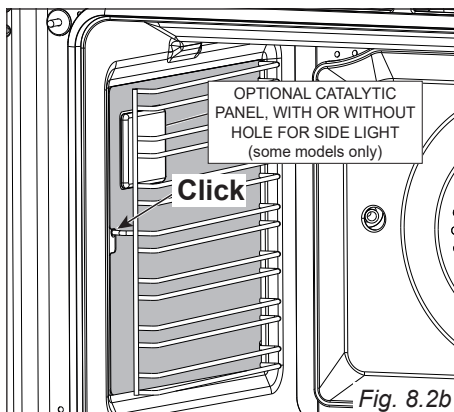

Fig. 8.2b
- Slide the front prong of the side rack into the holes at the front of the oven (fig. 8.2b).